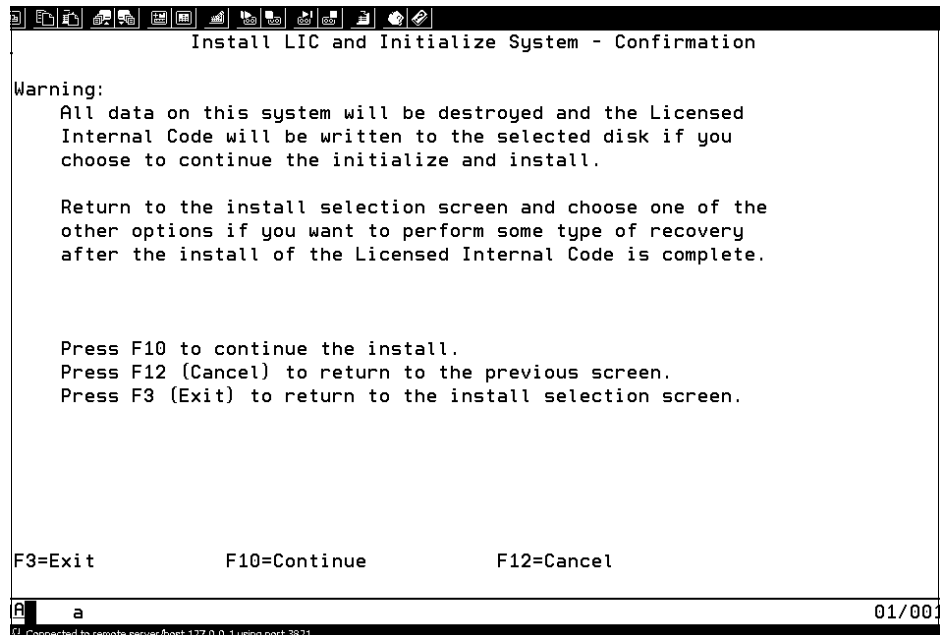

Figure 7-54 Confirm definition
9. The Confirmation screen appears as shown in Figure 7-54 on page 299. This procedure causes existing data on the disk assigned to this logical partition to be lost. Press **F10** to continue or press F12 to Cancel and return to the previous screen.